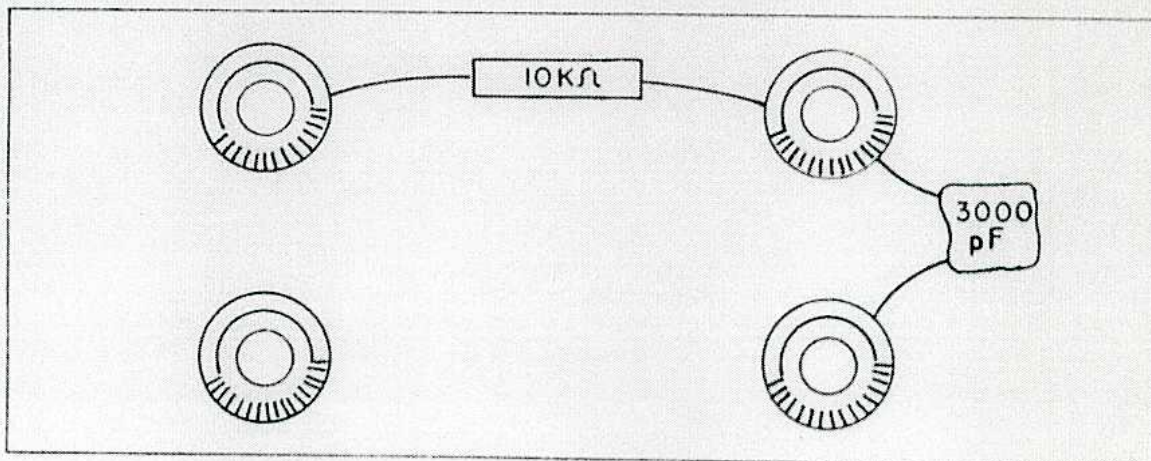

Figure 3-12. Connecting a Single Pole Low Pass Filter.
- b. Connect a $10\text{ k}\Omega$ resistor and a 3000 pF capacitor between the inputs of channels A and B as shown in Figure 3-12.